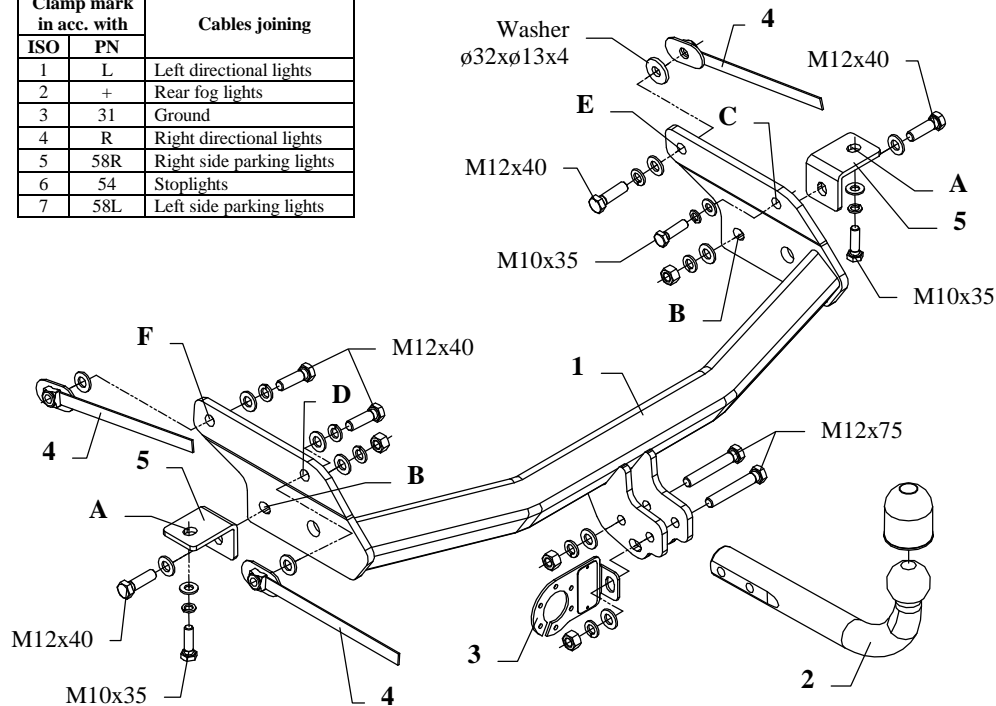

Fig. 1
3. Between installed angle bars put the main bar of the towing hitch (pos. 1) and fix using bolts M12x40mm (pos. 7) through holes (pos. B).
4. On the right side insert bolt M10x35mm in point (pos. C). On the left side insert bolt M12x40mm through hole (pos. D), use nut on the jib (pos. 4). Position the towing hitch horizontally. Drill holes (pos. E and F) in chassis members using bit ø13mm.
5. Fix the main bar of the towing hitch through holes (pos. E and F) using bolts M12x40mm and nuts on the jibs (pos. 4). On the left side remember about big washer ø32xø13x4mm (pos. 9), see figure 1.
6. Fix tow-ball (pos. 2) with socket plate (pos. 3) using bolts M12x75mm (pos. 6) from accessories.